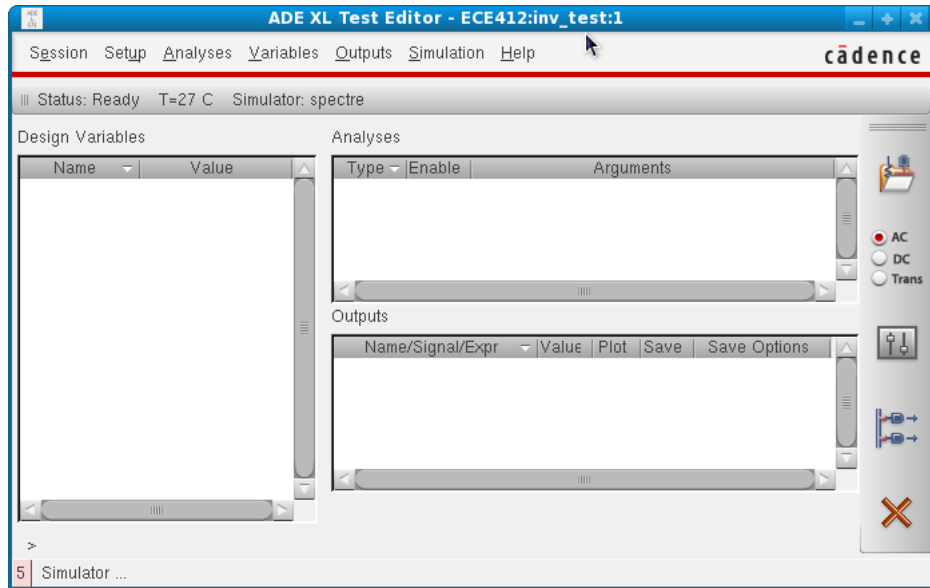

Figure 11: ADE Test Editor
5. Shown in figure 11 is the ADE test editor where all parameters, models, paths, etc will be defined. The following settings should be set by default however you need to verify them to insure a valid simulation: